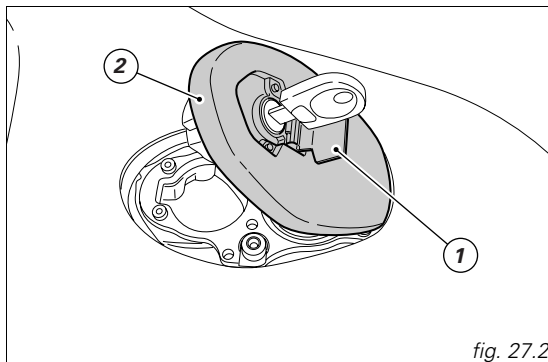

fig. 27.2
Lift the protection lid (1) and fit the ignition key into the lock. Turn the key clockwise 1/4 turn to unlock. Lift the plug (2, fig. 27.2).